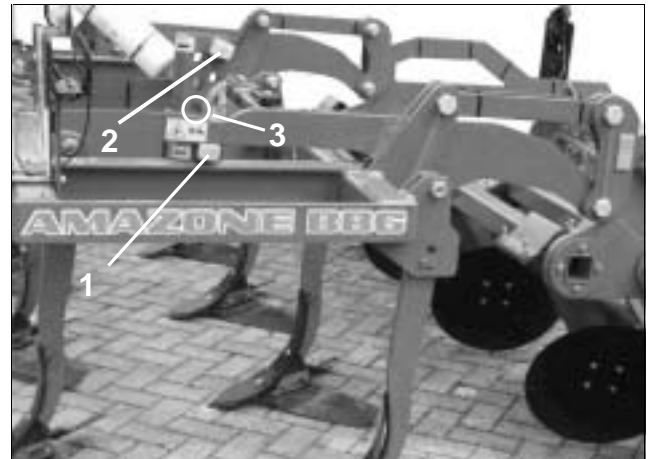

Fig. 11
- Insert the eccentric (Fig. 11/1) in higher/lower and/or turn.
If the winged tines are not pulled in sufficiently insert the eccentric (Fig. 11/2) downwards (directly above the roller linking) (Fig. 11/3). This way the winged tines are additionally burdened by the roller.